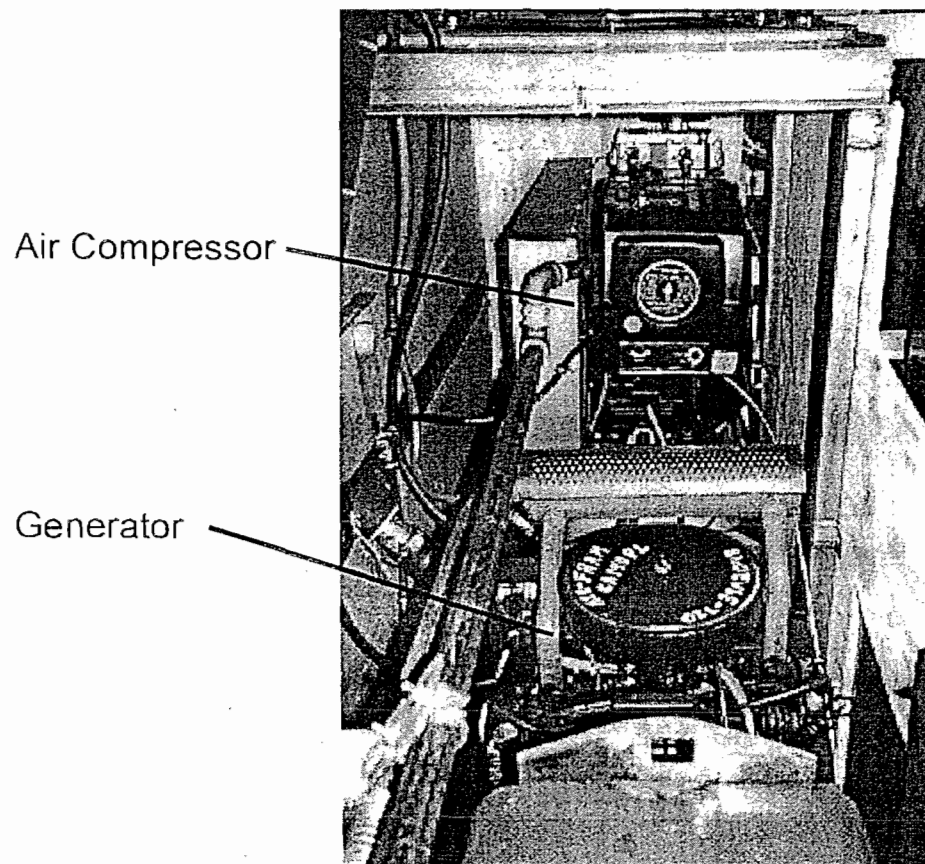

Figure 1.2: Power Systems
1.2 Power Systems (Figure 1.2)